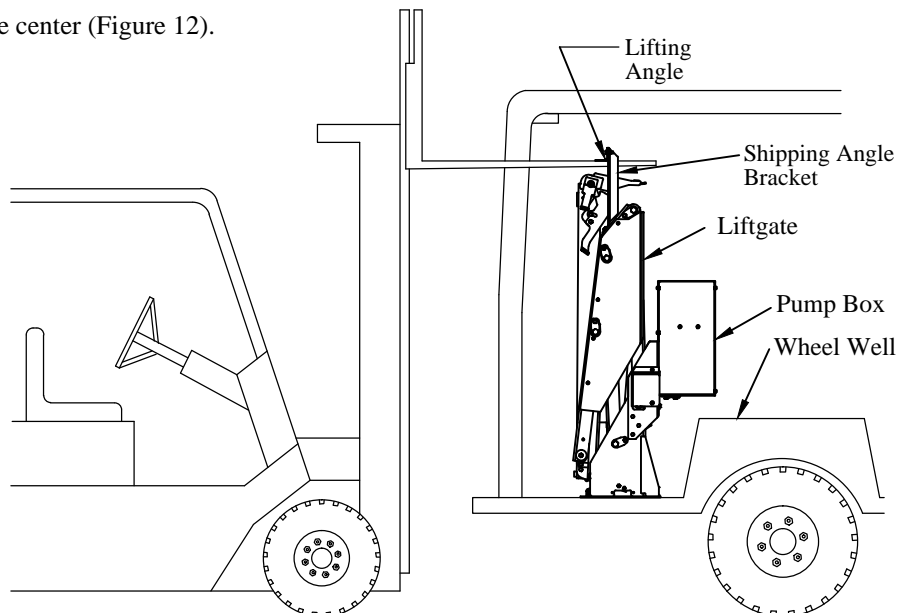

Figure 13: Lifting angle.
1. **Lift** the liftgate by the lifting angle with a fork truck (Figure 13).